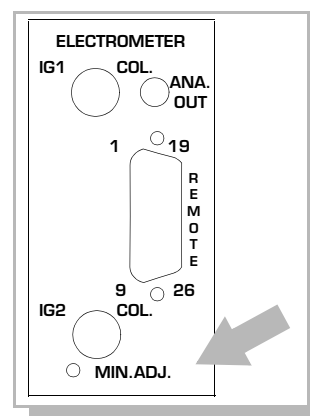

Figure 6-3 Rear View, Electrometer Module Showing MIN. ADJ Control.
5. Locate the MIN. ADJ control on the rear panel of the Electrometer Module. See Figure 6-3.